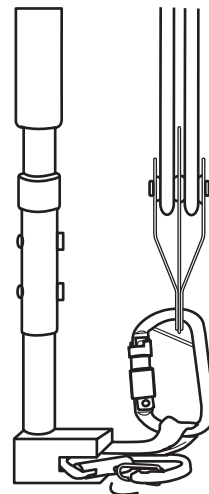

Fig. 5
5. Connect the rescue retrieval system to be used into the free end of the web sling connected to the Remote Hook (Fig. 5).